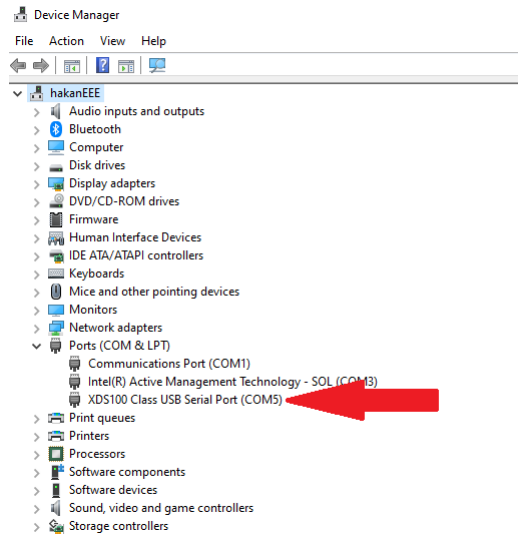

Figure 1: The serial port on the Device Manager screen
- **TheSerialChannelDevice** : The serial channel port seen by the computer is stated in this variable. The port value can be determined from the device manager. For the example given in Figure 1, TheSerialChannelDevice should be set as 'COM5'.